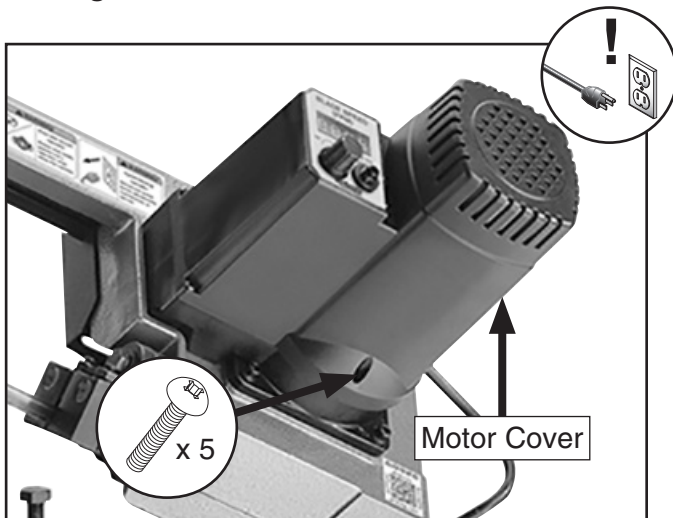

Figure 43. Motor cover and securing Phillips head screws.
2. Remove (5) Phillips head screws shown in **Figure 43** and motor cover.